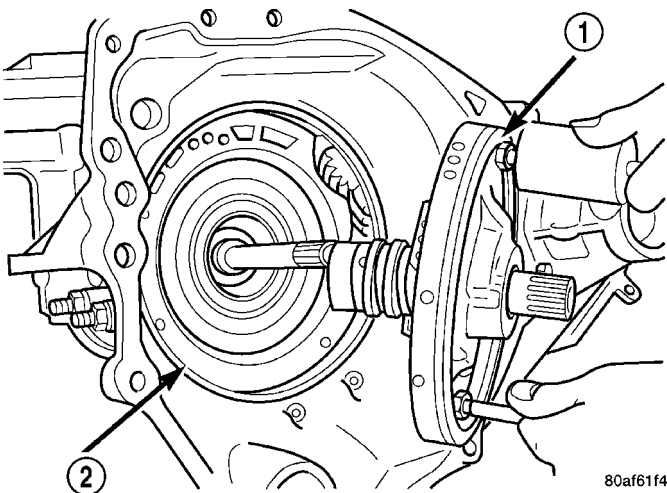

Fig. 147 Install Oil Pump
(57) Install oil pump assembly (Fig. 147).